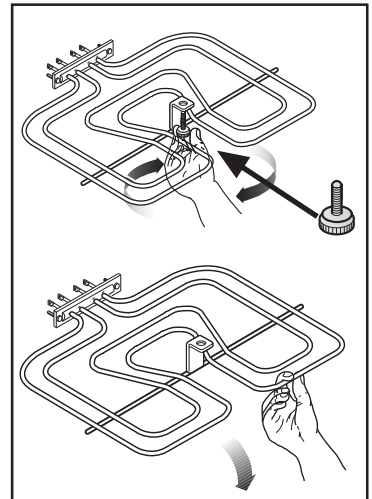

Fig. 4
- 1) Undo the screw fastening the grill element (see Fig. 4). When carrying out this operation for the first time, we recommend using a screwdriver.
- 2) Then gently pull the grill downwards to allow access to the oven roof (see Fig. 4).